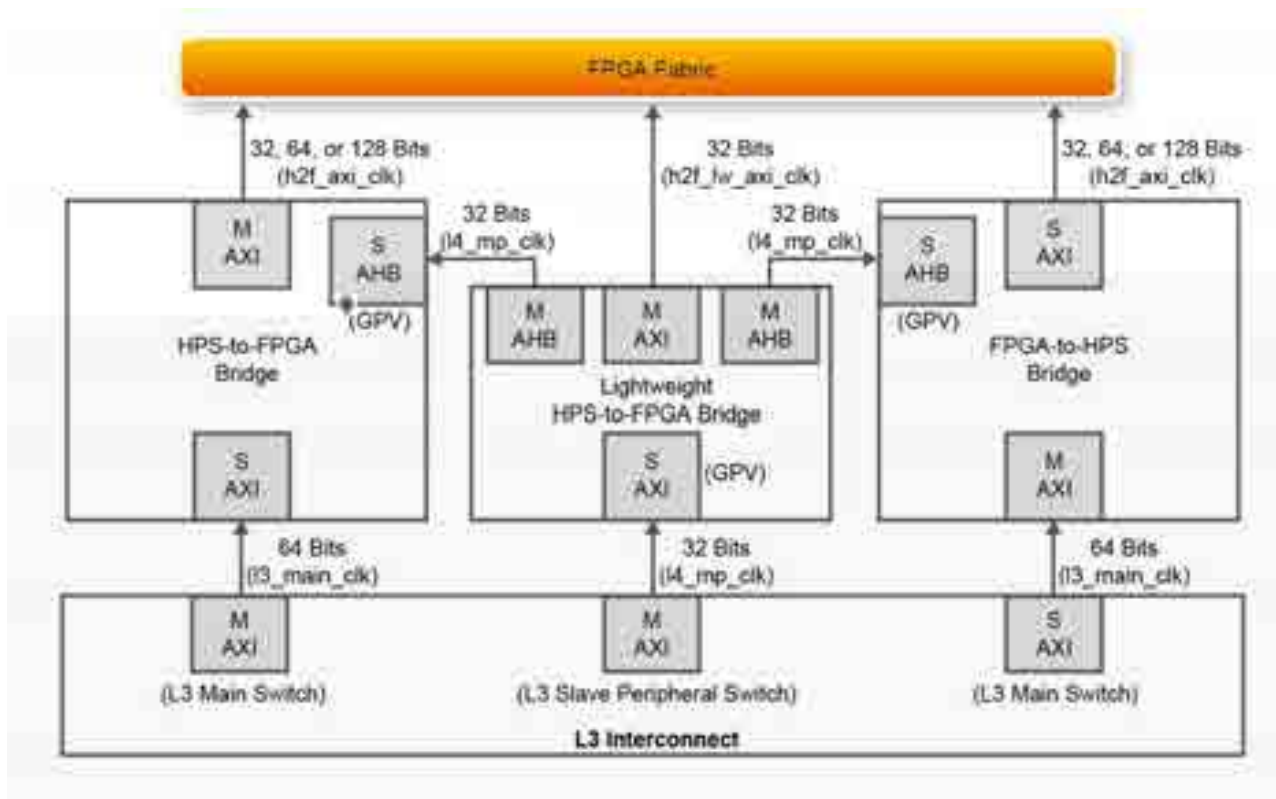

Figure 7-1 AXI Bridge Block Diagram
Figure 7-1 shows a block diagram of the AXI bridges in the context of the FPGA fabric and the L3 interconnect to the HPS. Each master (M) and slave (S) interface is shown with its data width(s). The clock domain for each interconnect is noted in parentheses.